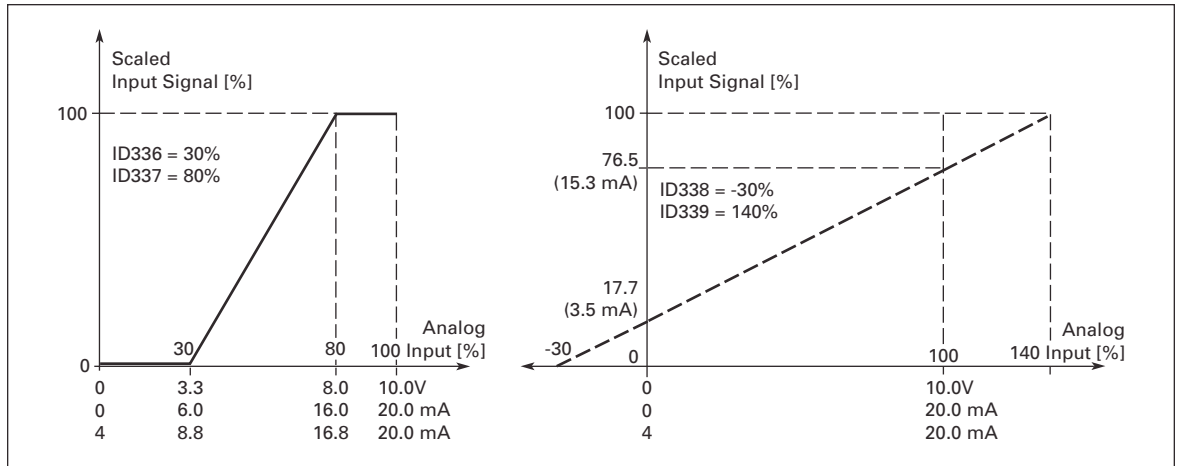

Figure 8-22: Examples of Actual Value Signal Scaling
- Sets the minimum scaling point for Actual value 1. See **Figure 8-22**.
- Sets the maximum scaling point for Actual value 1. See **Figure 8-22**.
- Sets the minimum scaling point for Actual value 2. See **Figure 8-22**.
- Sets the maximum scaling point for Actual value 2. See **Figure 8-22**.